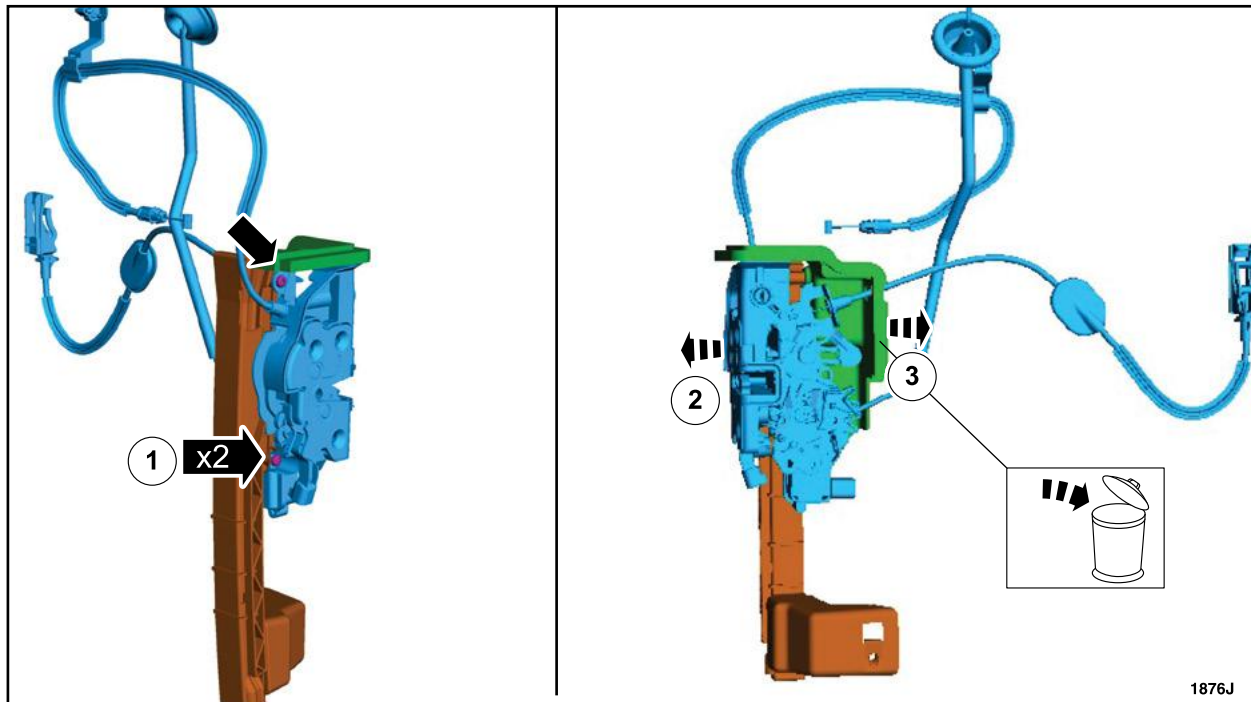

FIGURE 40
14. Remove the retainers and separate the door latch components to gain access to the actuator. Note the components position and orientation for reassembly. Discard the door latch water shield. See Figure 40.
19. Reassemble the latch components, including a *new* water shield, and then install the retainers. See Figure 40.